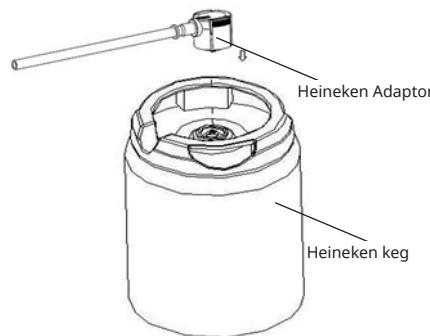
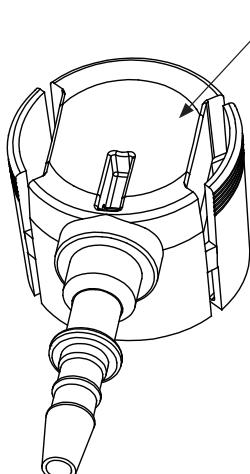

Figure 5
Figure 6
1. Remove the adapter from the Heineken keg and then recycle and scrap the adapter in accordance with the relevant environmental legislation (as shown in Figure 5).
2. Then install the adapter (i.e. Heineken spout) (as shown in Figure 5 and Figure 6) of the beer cooler according to the method on the keg description (as shown in Figure 8).